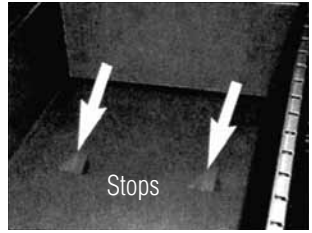

Fig. 6
2. Lift up on front of drawer until the stops on the bottom of drawer clears (Fig. 6) suspension and pull drawer forward.